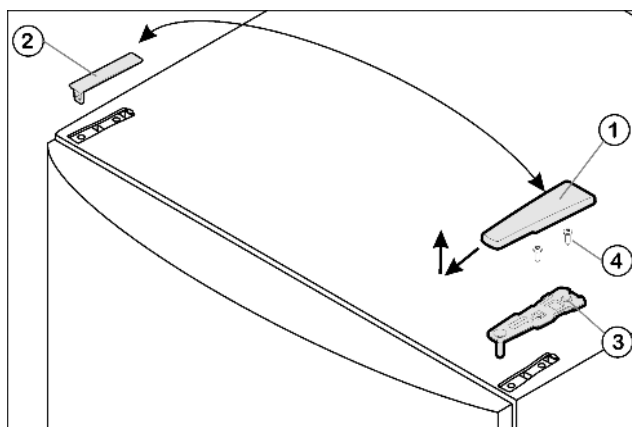

Fig. 4
- Pull off the cover Fig. 4 (1) forwards and upwards.
- Lift off the cover Fig. 4 (2).
- Unscrew the upper turn hinge Fig. 4 (3)(2x Torx® 25) Fig. 4 (4) and lift it off.
- ▶ Insert the upper turn hinge Fig. 4 (3) in the door on the new hinge side.
- ▶ Screw the upper turn hinge **firmly** into place (**with 4 Nm**) (2x Torx® 25) Fig. 4 (4). Possibly make preliminary holes with a bradawl or use a cordless screwdriver.
- ▶ Apply the cover Fig. 4 (1) and cover Fig. 4 (2) to the opposite side from the outside and snap them into place.